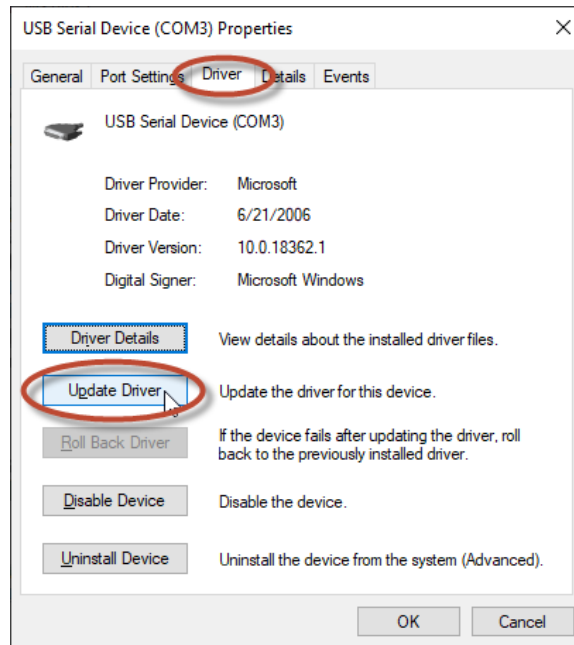

Figure 64-5. USB Serial Device Properties
- Step 4. In the USB Serial Device (COM#) Properties window, select the Driver tab and click Update Driver. See Figure 64-5.